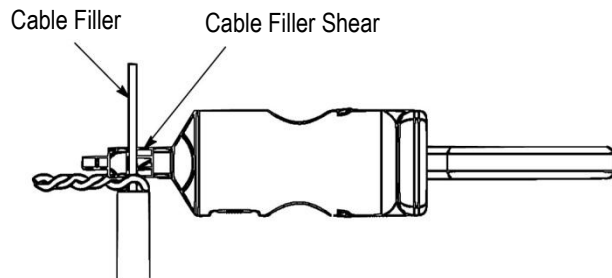

Figure 3
4. CUTTING THE CABLE FILLER (Figure 3)